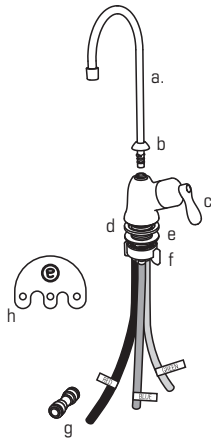
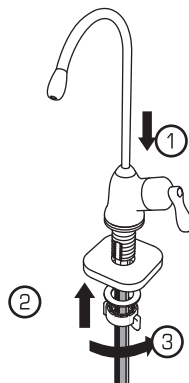

Fig. 18
Fig. 21
eSpring Auxiliary Faucet Components (Fig. 18):
3. **Holding** the rubber washer in place against the faucet body, lower the **eSpring** Faucet stem and tubes through the hole in the sink ledge or counter (1). With an assistant holding the faucet in place, **reach up** from below the counter and **slide** the metal washer then the wing nut onto the threaded faucet (2). **Position** the faucet in the desired orientation and **tighten** the metal washer and wing nut to secure the faucet in place (3) (Fig. 21).
NOTE: You must use the Supply Connector (Fig. 18, part c) between the valve at the water supply and the eSpring Faucet.
Tubing not inserted far enough.	-Remove tubing, p. 9, Fig. 32. -Mark tubing, p. 4, Fig. 18. -Install tubing, p. 4, Fig. 21.